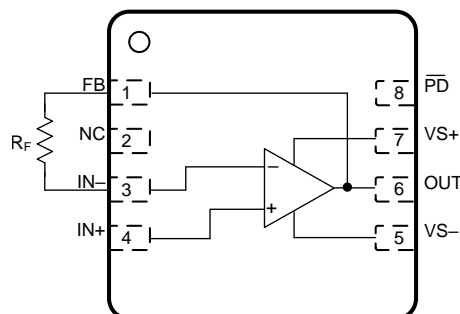

图 49. R_F Connection Between FB and IN- Pins
1. A feedback resistor (R_F) can connect between the FB and IN- pin on the same side of the package (see 图 49) rather than going around the package.